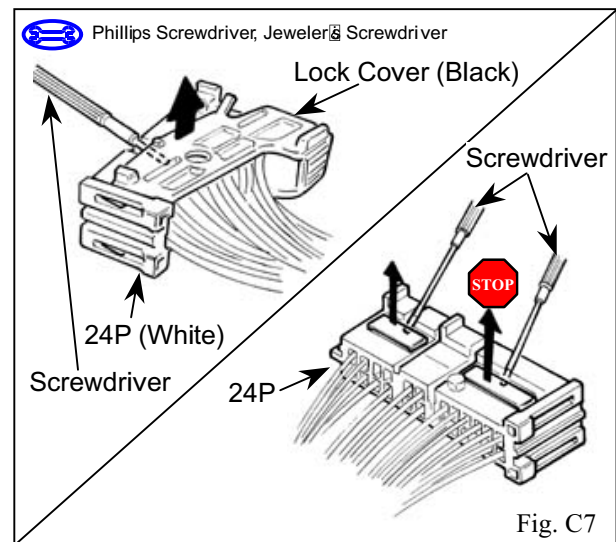

Fig. C7
13. Using a small screwdriver, lift up and slide the black lock cover from the 24P connector. (Fig. C7)
14. Using a small Jeweler's Screwdriver or the like, lift up the terminal retainer on the 24P connector. (Fig. C7)